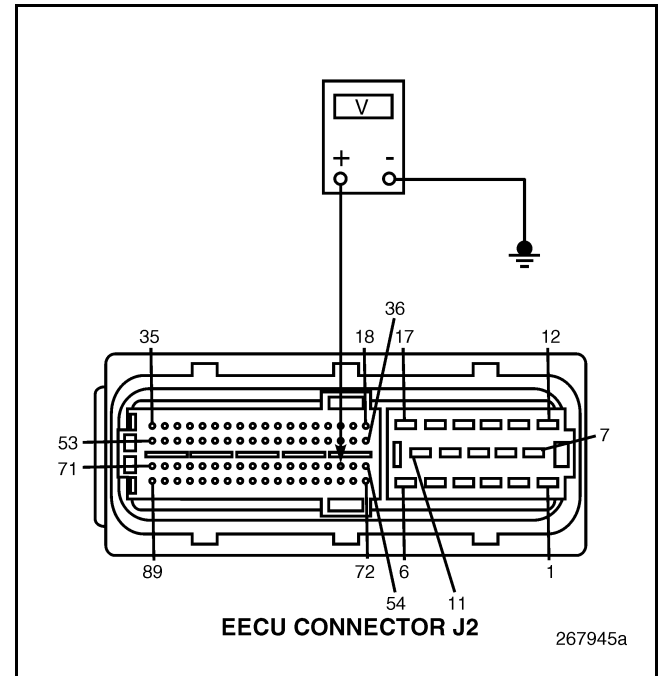

Figure 367
4. Measure the voltage between EECU connector J2 pin 56 and a good ground (see Figure 367).